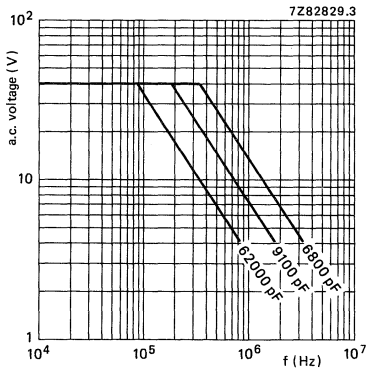

Fig. 3 Maximum a.c. voltage (r.m.s. value) as a function of frequency at $T_{amb} \leq 70^\circ\text{C}$, for $U_R = 63\text{ V}$.
* At $T_{amb} \leq 70^\circ C$ the maximum permissible sinusoidal voltage can be found in Figs 3, 4 and 5.